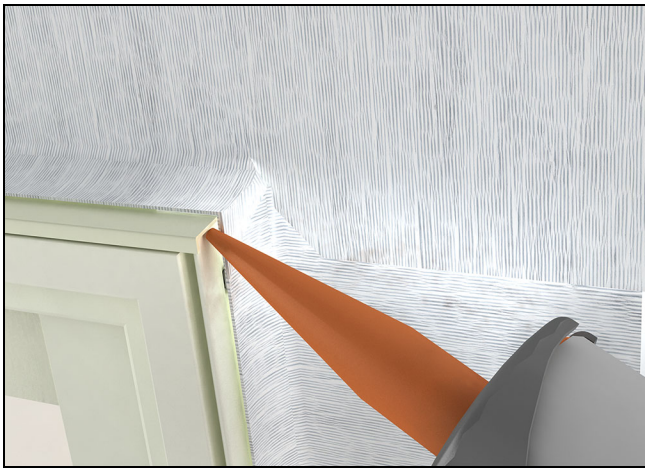

Figure 64
7. Seal the ends of the vinyl drip cap or rigid head flash by injecting sealant at each end. See Figure 64.